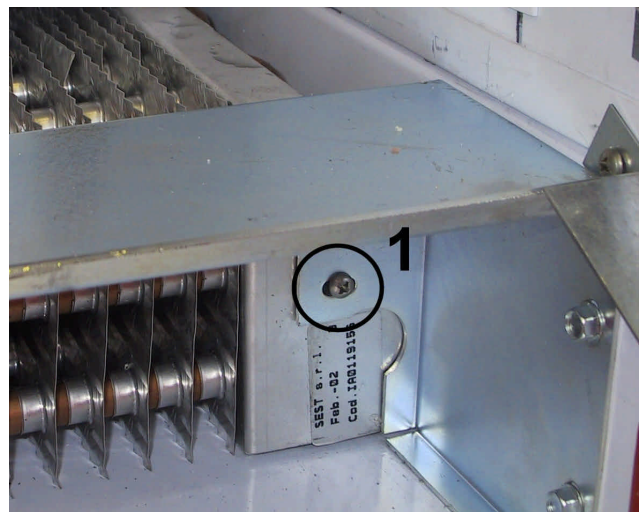

Figure 53
Unscrew the two evaporator fixing screws from the aluminum profile shaft ("1" in Fig. 53); slide the probe (H) (84) from the copper bulb support welded on the evaporator side (Fig. 55).